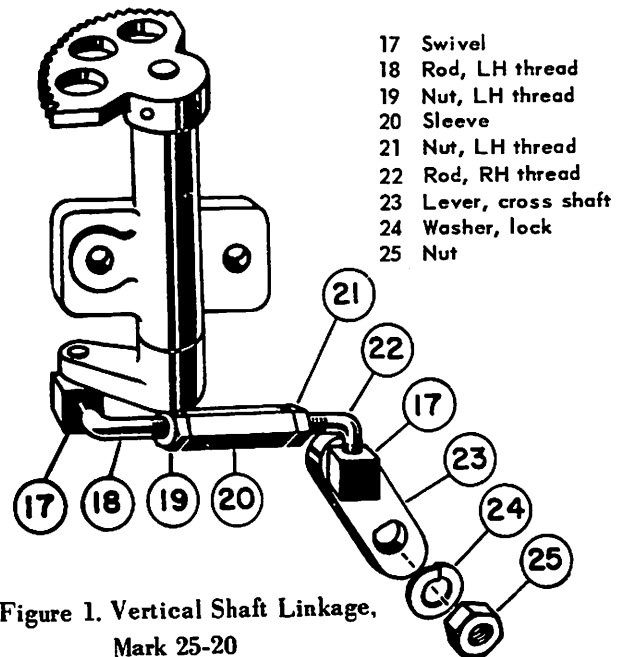

Figure 1. Vertical Shaft Linkage,
2. Remove nut from end of cross-shaft and cross shaft lever (linkage). (Figure 1)